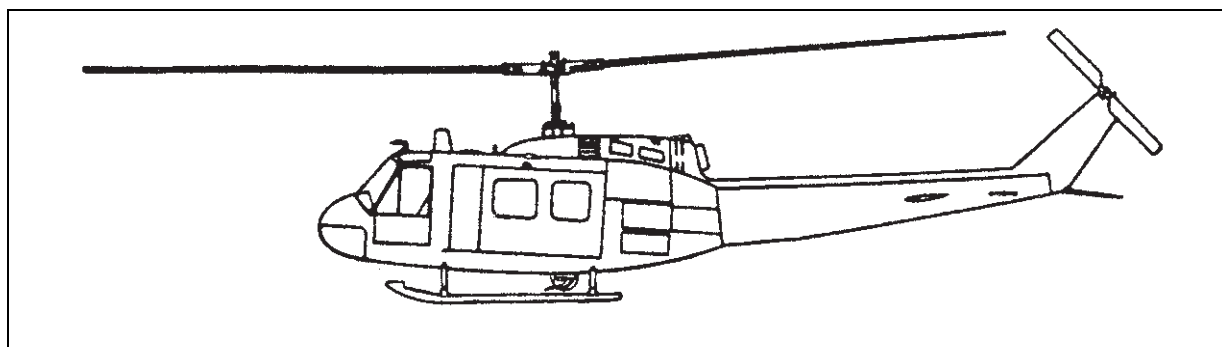

Figure 2-2. UH-1 Iroquois (Huey)
- **UH-1.** The UH-1H/P is a single engine, single main rotor helicopter (figure 2-2) manufactured by Bell Helicopter Textron. The UH-1N is a twin engine version. The UH-1 is a general-purpose aircraft that has a limited cargo-carrying capability. It is used for such missions as aerial delivery of troops, cargo, and injured personnel.